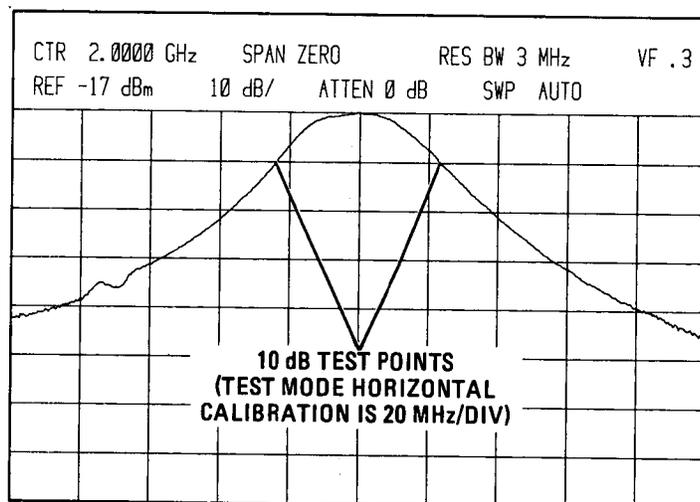

Figure 5-31. YTF Passband Display for YIG Driver Adjustment
13. Adjust A19R14 YTF OFFSET to center passband on CRT display (Figure 5-31).
15. Adjust A19R17 YTF GAIN to center passband on CRT display (Figure 5-31).